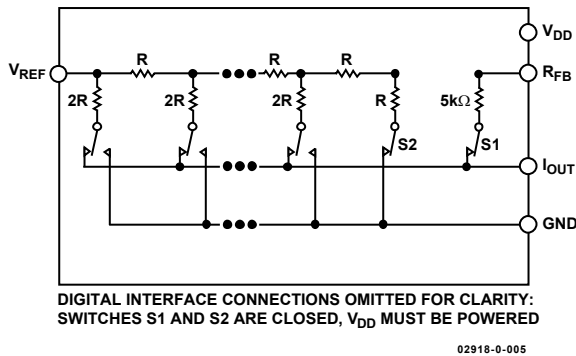

Figure 16. Equivalent R-2R DAC Circuit
The DAC architecture uses a current-steering R-2R ladder design. Figure 16 shows the typical equivalent DAC. The DAC contains a matching feedback resistor for use with an external I-to-V converter amplifier. The R_{FB} pin is connected to the output of the external amplifier. The I_{OUT} terminal is connected to the inverting input of the external amplifier. These DACs are designed to operate with both negative or positive reference voltages. The V_{DD} power pin is used only by the logic to drive the DAC switches ON and OFF. Note that a matching switch is used in series with the internal 5 kΩ feedback resistor. If users attempt to measure the R_{FB} value, power must be applied to V_{DD} to achieve continuity. The V_{REF} input voltage and the digital data (D) loaded into the corresponding DAC register, according to Equation 1 and Equation 2, determine the DAC output voltage.